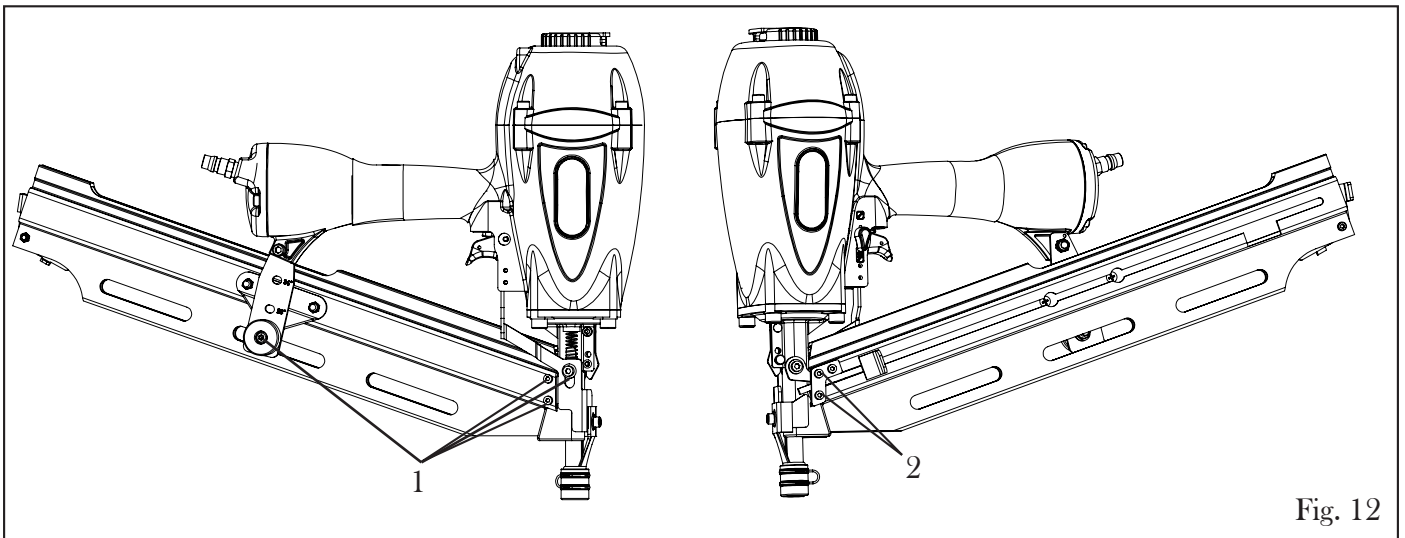

Fig. 12
4. Remove the angle adjustment wheel and five hex screws (Fig. 12 - 1 & Fig. 12 - 2). Slide the magazine off the nosepiece. Keep note of the orientation of each part so that you can reassemble the magazine. Remove the bent fastener. Reattach the magazine and re-install the screws.